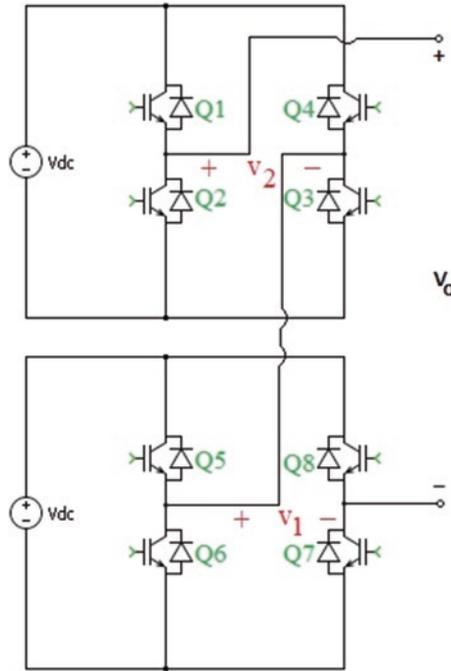

Fig. 4.289 Schematic of Exercise 4
4. A cascaded multilevel inverter is shown in Fig. 4.289. It is composed of series connection of two single-phase H bridge inverters. Each of the H bridge inverter can produce output voltage of $-V_{dc}$, 0 and $+V_{dc}$. So, with series connection of two H bridge inverters, we can produce $-2V_{dc}$, $-V_{dc}$, 0, $+V_{dc}$ and $+2V_{dc}$. Increasing the number of series stages helps to decrease the output THD.